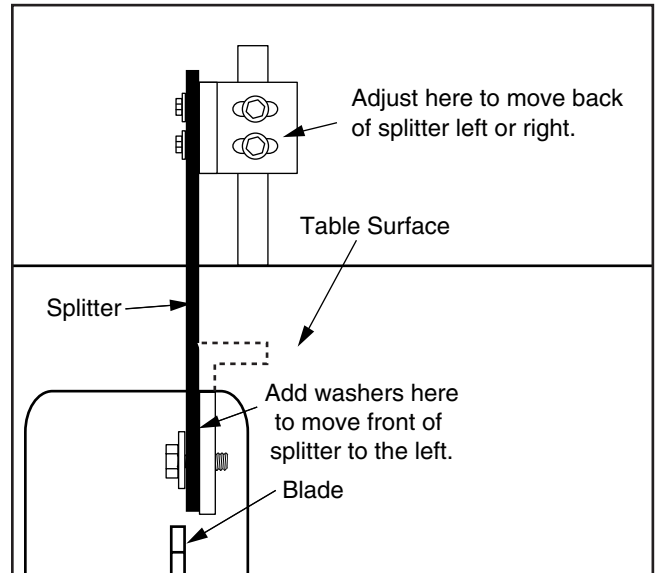
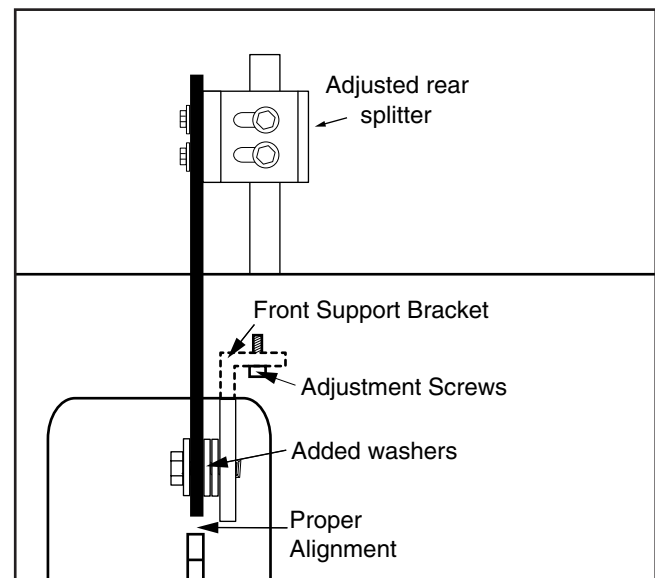

Figure 19. Improper splitter/blade alignment.
Figure 20. Proper splitter/blade alignment.
4. If the blade splitter is to the right of the blade as shown in **Figure 19**, simply add washers between the splitter and the front support bracket, and adjust the rear splitter support as shown in **Figure 20**.
6. If the splitter is positioned to the left of the blade, alignment cannot be achieved by washer placement. Adjustment of the front support bracket is required. See **Figure 20** for adjustment details. Loosen the (2) adjustment screws and move left or right.